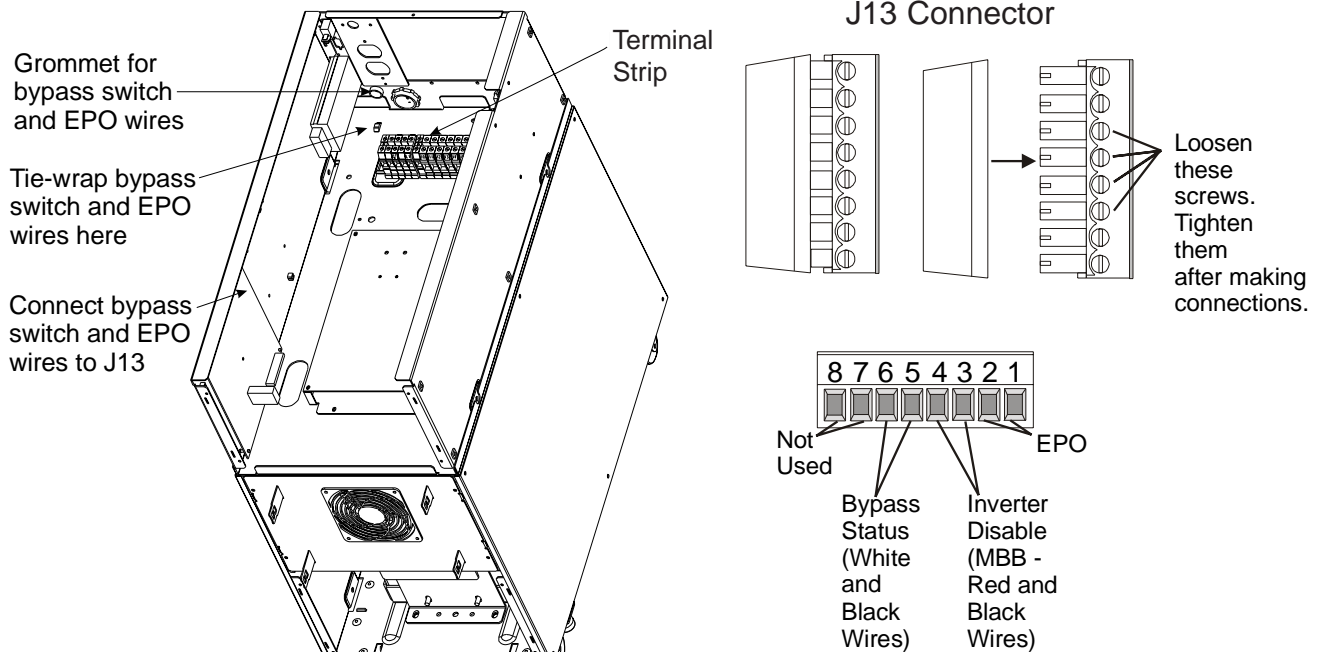

Figure 9
- c) Loosen the standard screws on the J13 connector as shown in Figure 9.
- d) If your bypass switch is Make-Before-Break (MBB), connect the red and black pair of wires to the terminals marked 3 and 4 in Figure 9, with the red wire going to 3 and the black wire going to 4.
- g) Use the tie-wraps provided to secure the cable. See Figure 9.